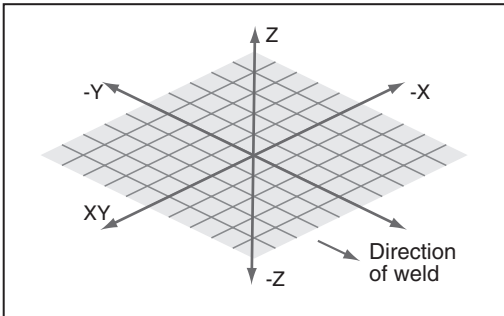

FIG. 14
8.8 DIRECTION OF WELD – FIG. 14